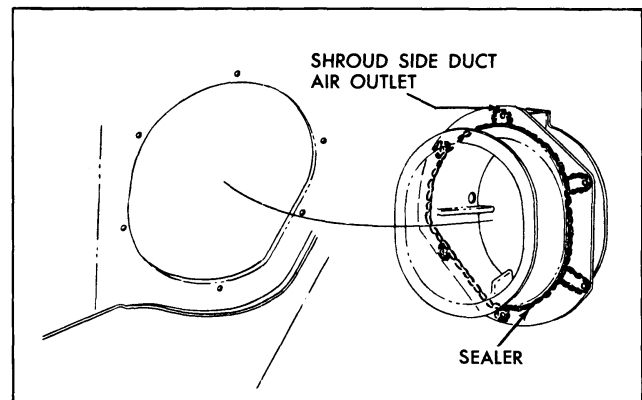

Fig. 2-13 Shroud Side Duct Air Outlet
3. To install, apply a bead of medium-bodied sealer (Fig. 2-13) to shroud panel at perimeter of air outlet opening in shroud panel and reverse removal procedure.